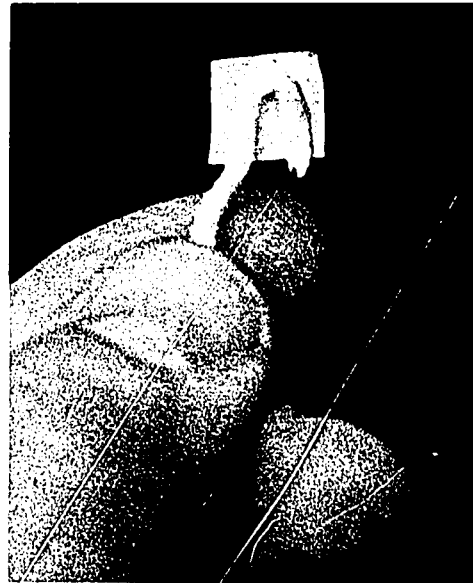

Fig. 4E-6. Forming a Loop in a Shroud Line
4. Form a loop in one end of each shroud line and attach a piece of masking tape. See Fig. 4E-6.
5. Attach a shroud line to each corner of the plastic parachute. See Fig. 4E-7. Assist Student 1 in cutting out parachutes, if you are waiting.
6. Tie the ends of the shroud lines of each chute together. See Fig. 4E-8.